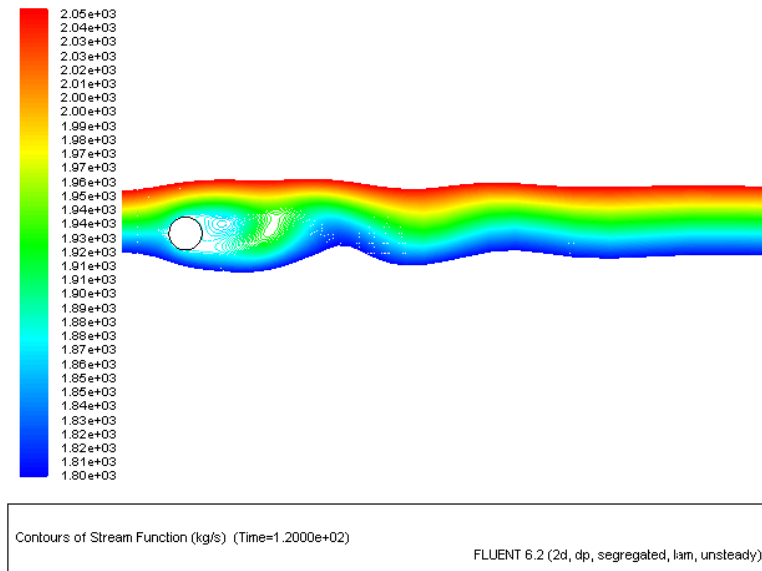

Figure 6.9: Contours of Stream Function
- The instantaneous streamline can be displayed to see the incipient and shed vortex clearly (Figure 6.9).